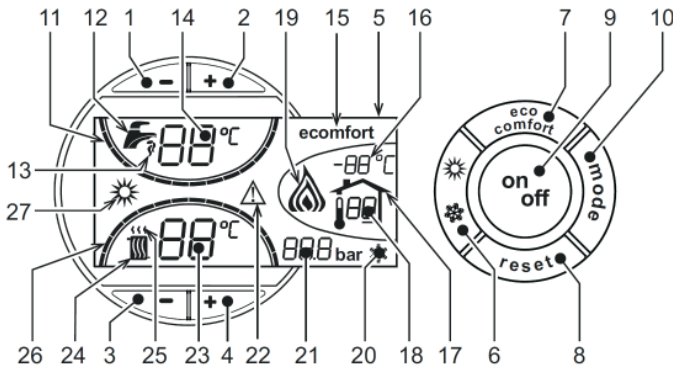
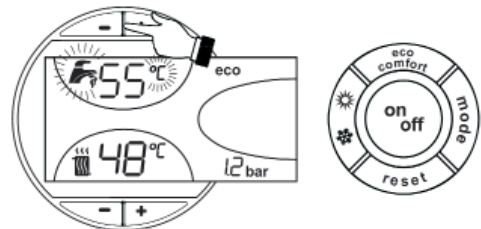
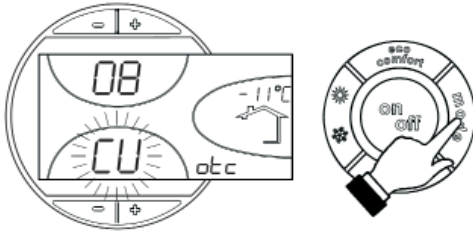
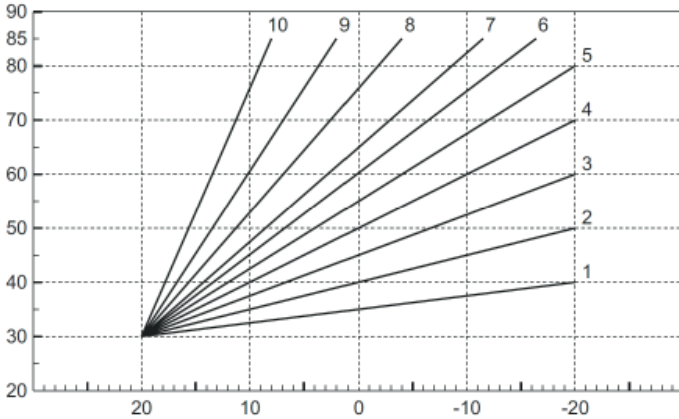

fig.1 – Control panel
fig.11
fig.13 - Curve parallel offset
fig.14 - Compensation curves
A heating demand (generated by the Room Thermostat or Remote Timer Control) is indicated by flashing of the hot air above the radiator (details 24 and 25 - fig.1).
The heating graduation marks (detail 26 - fig.1) light up as the heating sensor temperature reaches the set value.
A DHW demand (generated by drawing domestic hot water) is indicated by flashing of the hot water under the tap (details 12 and 13 - fig.1).
The DHW graduation marks (detail 11 - fig.1) light up as the DHW sensor temperature reaches the set value.
The operation of the accumulator (heating and maintenance in temperature) can be deactivated by the user. In such a case, there is no sanitary hot water supply. When the accumulator is activated (default option), the COMFORT symbol appears on the display (15 - fig.1); if it is deactivated, the ECO symbol (15 - fig.1) is displayed. To deactivate the heater and set the ECO mode, press the eco / comfort key (7 - fig.1). To return to COMFORT mode, press the eco / comfort key again (7 - fig.1)
Press the on/off button (detail 9 - fig.1) for 1 second.
The antifreeze system remains activated. To relight the boiler, press the on/off button (detail 9 - fig.1) again for 1 second.
Press the summer/winter button (detail 6 - fig.1) for 1 second.
The display activates the Summer symbol (detail 27 - fig.1): the boiler will only deliver domestic hot water. The antifreeze system remains activated.
To deactivate the Summer mode, press the summer/winter button (part. 6 - fig.1) again for 1 second.
Use the heating buttons (details 3 and 4 - fig.1) to adjust the temperature from a min. of 30°C to a max. of 80°C.
Use the DHW buttons -/+ (details 1 and 2 - fig.1) to adjust the temperature from a min. of 10°C to a max. of 65°C.
When the optional external probe is installed the control panel display (detail 5 - fig.1) shows the actual outside temperature read by the probe. The boiler control system operates with "Sliding Temperature". In this mode, the temperature of the heating system is adjusted according to the outside weather conditions, in order to ensure high comfort and energy saving throughout the year. In particular, as the outside temperature increases, the system delivery temperature is decreased according to a specific "compensation curve".
With Sliding Temperature adjustment, the temperature set with the heating buttons -/+ (details 3 and 4 - fig.1) becomes the maximum system delivery temperature. It is advisable to set a maximum value to allow system adjustment throughout its useful operating range.
Press the mode button (detail 10 - fig.1) once to display the actual compensation curve (fig.11), which can be modified with the DHW buttons (details 1 and 2 - fig.1). Adjust the required curve from 1 to 10 according to the characteristic (fig.13).
Press the heating buttons (details 3 and 4 - fig.1) to access parallel curve offset (fig.14), modifiable with the DHW buttons (details 1 and 2 - fig.1).
Press the **mode** button (detail 10 - fig.1) again to exit parallel curve adjustment mode.